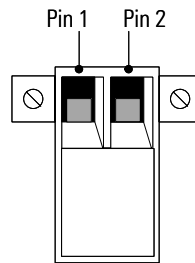
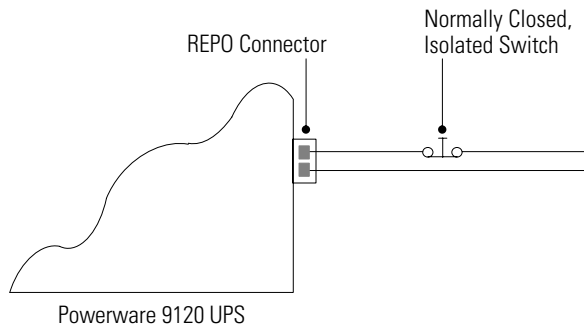

Figure 6. REPO Connector
Figure 7. REPO Wiring Diagram
4. Connect isolated, normally-closed, dry contacts (rated at 60 Vdc maximum, 30 Vac RMS maximum, and 20 mA maximum) across the REPO device to Pin 1 and Pin 2 (see Figure 6). Use stranded, non-shielded wiring, size 18–22 AWG (0.75 mm²–0 mm²). See Figure 7.